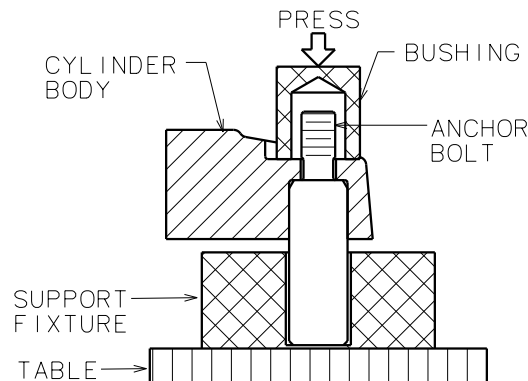

Figure 305 - Anchor Bolt Installation
- (b) If anchor bolts were removed, install anchor bolts using an arbor press and a holding fixture. Refer to Figure 305. Insure that bolt is **perpendicular** to the cylinder and **parallel** to one another. Install washers and nuts. Dry torque nuts to 90 inch-pounds (7.9 Nm). The torque to overcome the locking feature of the nut must be added to the above torque level to obtain the true torque.